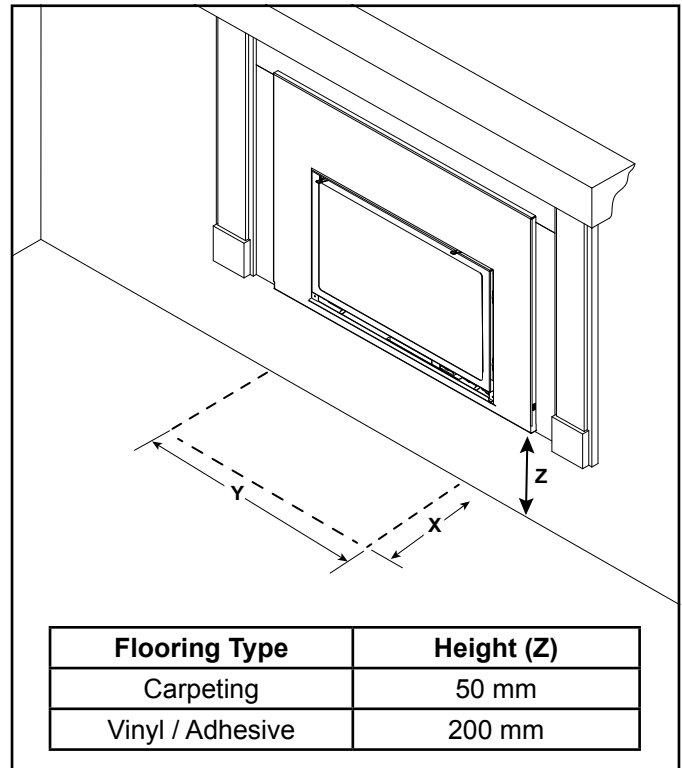

Figure 8.6 Hearth - Minimum Height for Vinyl / Adhesive or Carpeting Flooring
- Carpeting is acceptable in front of the appliance when the appliance is raised off the floor 2 inches (50 mm) or more. Vinyl Adhesive flooring is acceptable in front of the appliance when the appliance is raised off the floor 8 inches (200 mm) or more. See Figure 8.6.